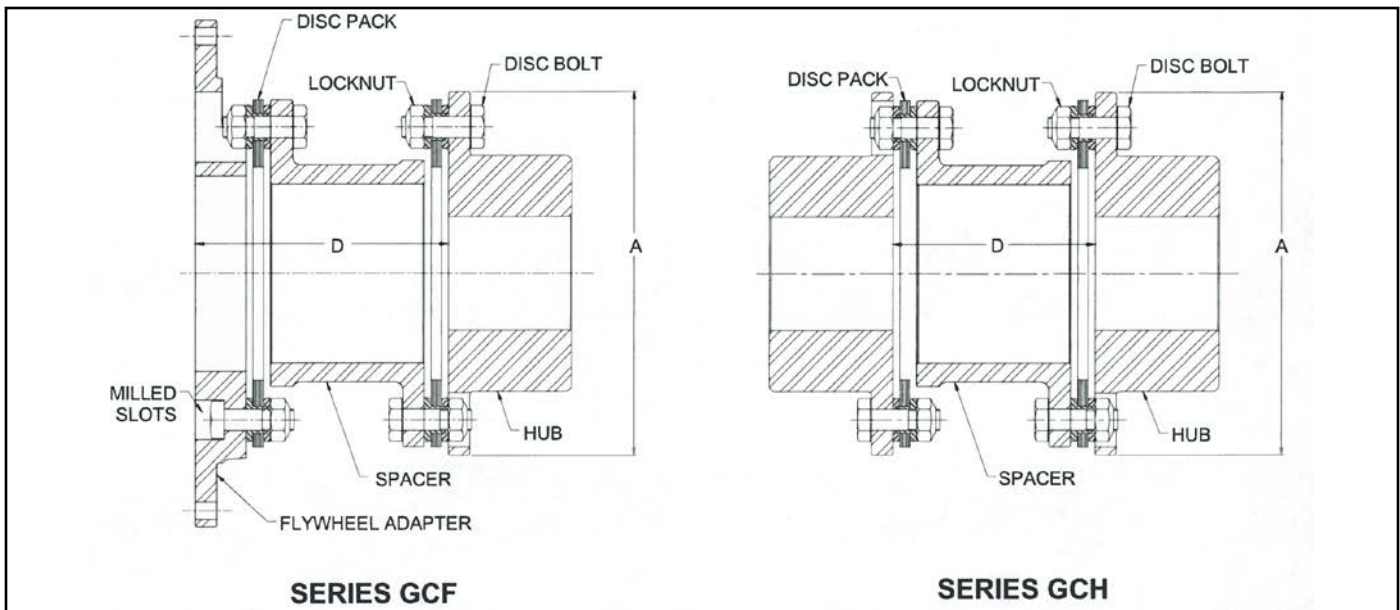

FIG. 1: COUPLING NOMENCLATURE
11. Install a disc pack on adapter or first hub. Review figure 1 to confirm proper bolt orientation. For couplings with two hubs, install the four disc bolts which connect the pack to the first hub. Coat all bolt threads and nut faces with anti-seize thread compound.
12. Bring spacer into position and install the other four bolts and nuts at the first end, oriented as shown in Figure 1. Continue to support spacer to prevent damage to the disc pack.
13. Install second disc pack and all remaining bolts and nuts as shown in Figure 1. Read the following sections before tightening bolts.